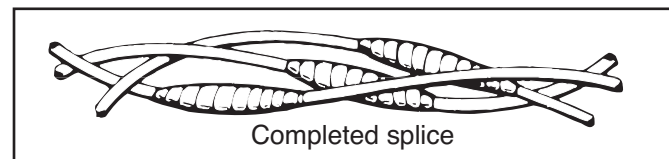

Figure 4-4: Wrap Splices
- G. Using #33 Scotch® tape, wrap each joint tightly: cover wire for about 1-1/2" (38mm) on each side of joint. Make four passes with the tape. When finished you should have four layers of tape tightly wrapped around the wire. Press edges of tape firmly down against the wire (Figure 4-4).